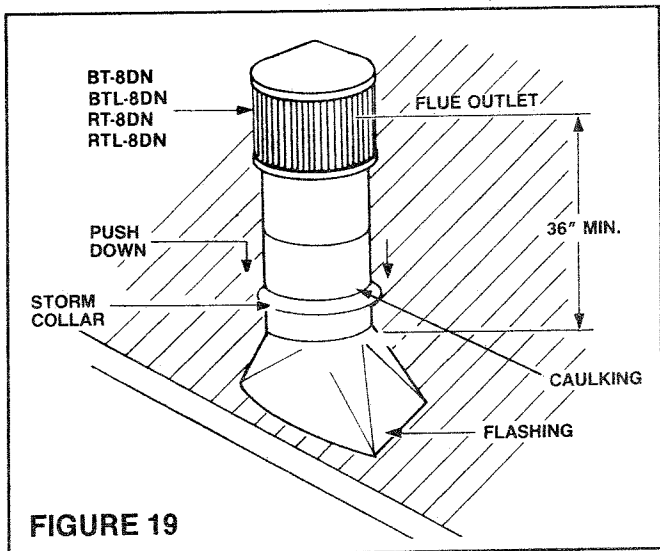

FIGURE 19
STEP 9: Install storm collar on the chimney and push down securely to the top of the flashing. Apply waterproof caulking around the top of the storm collar. (Figure 19)